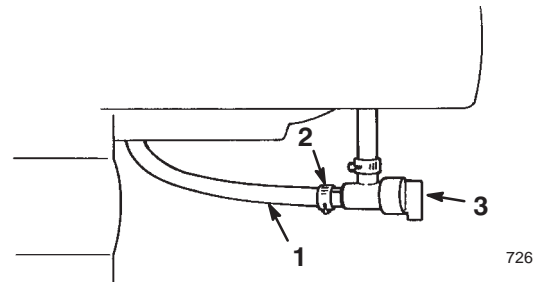

Figure 20
4. Open the fuel shutoff valve below the fuel tank (Fig. 20).
5. Close the fuel shutoff valve (Fig. 20).